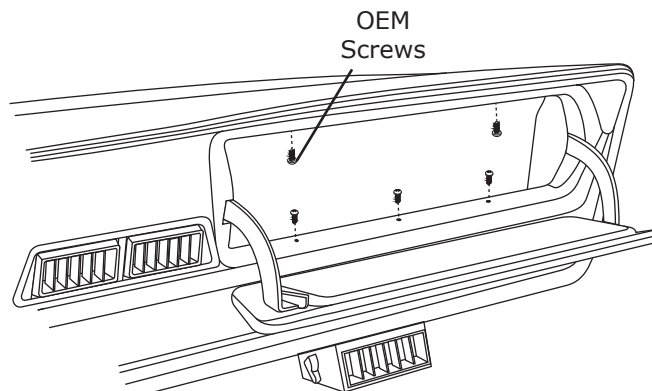

Figure 17a
6. Secure glove box in glove box compartment using OEM screws (See Figure 17a, below).